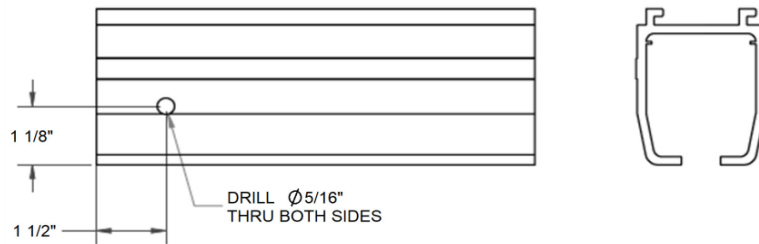

Figure 18: ***Clevis Pin Hole Location***
2. Use a 5/16" bit to drill a hole at the marked spots for the clevis pin (see Figure 18).